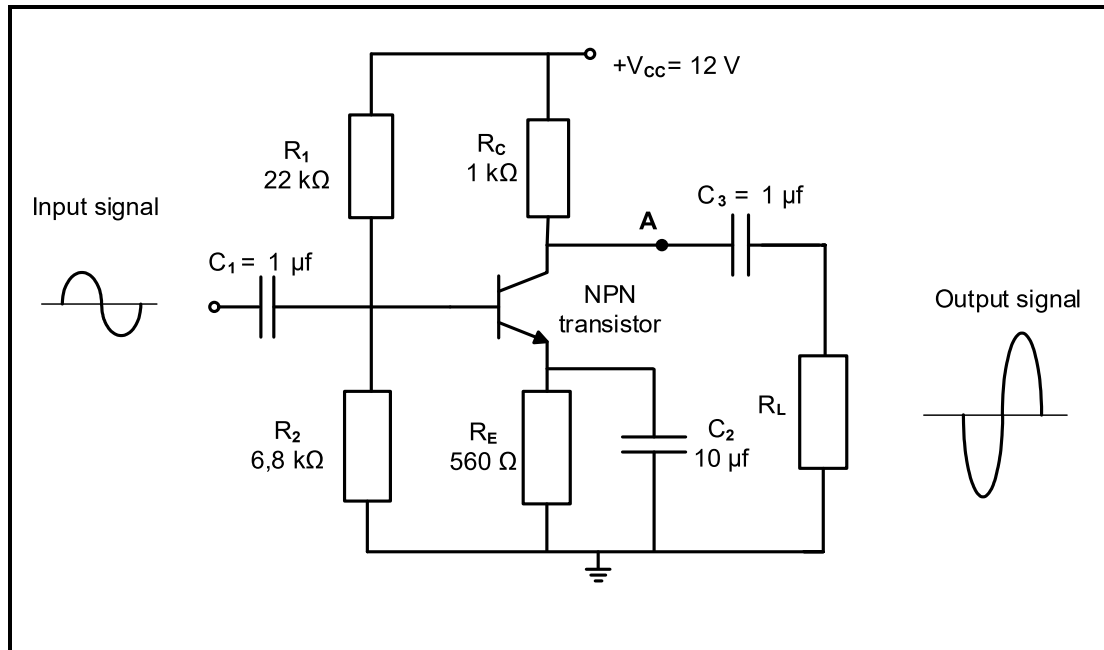

FIGURE 6.5: RC-COUPLED AMPLIFIER
6.5 Refer to FIGURE 6.5 below and answer the questions that follow.
- 6.5.1 Explain why C_1 and C_3 in FIGURE 6.5 above are referred to as coupling capacitors. (2)
- 6.5.3 If the circuit in FIGURE 6.5 above is not correctly biased, what effect will it have on its operation? (2)
- 6.5.4 Draw the waveform that would appear at point **A** in FIGURE 6.5 above on the ANSWER SHEET for QUESTION 6.5.4. (4)